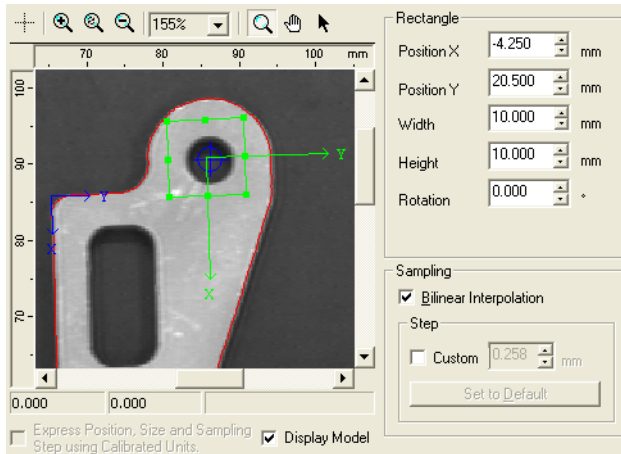

Figure 33 Adjusting the Size, Position and Orientation of the Blob Analyzer Rectangle
9. Place the Rectangle on the part as shown in Figure 33. Click the center of the Rectangle and drag it into position. Use the corner and side handles to adjust the width and height of the Rectangle. Fine-tune the position with the text boxes if needed. Once the Rectangle is placed, click **Execute**.